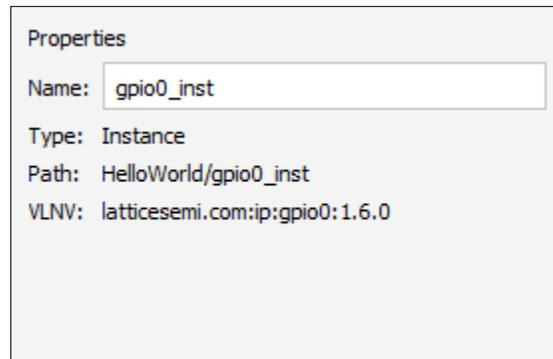

Figure 2.69. Object Properties
1. Select the object from List view of the Design View. Information of the selected object is shown in the **Properties** area (Figure 2.69).